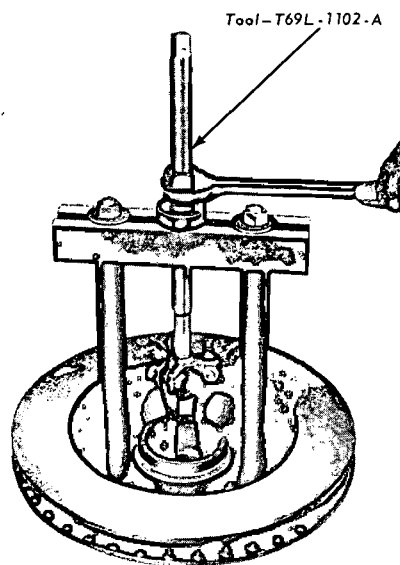

FIG. 1 Removing Front Wheel Bearing Cups—Disc (Drum-Type Similar)
or on the rotor. The entire assembly is retained to its spindle by the adjusting nut, nut lock and cotter pin (Figs. 1 and 2, Part 11-02, Section 1).
2. Remove the wheel cover or hub cap. Remove the grease cap from the hub. Remove the cotter pin, nut lock, adjusting nut, and flat washer from the spindle. Remove the outer bearing cone and roller assembly (Fig. 1, Part 11-02, Section 1).
5. Clean the lubricant off the inner and outer bearing cups with solvent and inspect the cups for scratches, pits, excessive wear, and other damage. If the cups are worn or damaged, remove them with Tool T69L-1102-A (Fig. 1).
14. Install the outer bearing cone and roller assembly and the flat washer on the spindle, then install the adjusting nut (Fig. 1, Part 11-02, Section 1).